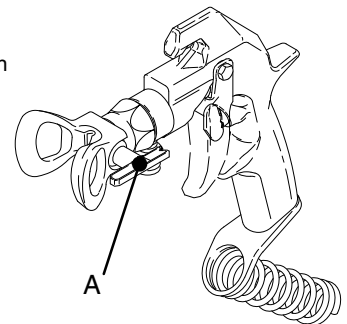

Fig. 4
1. Engage the trigger safety latch. Rotate the RAC IV tip handle 180°. See Fig. 4.